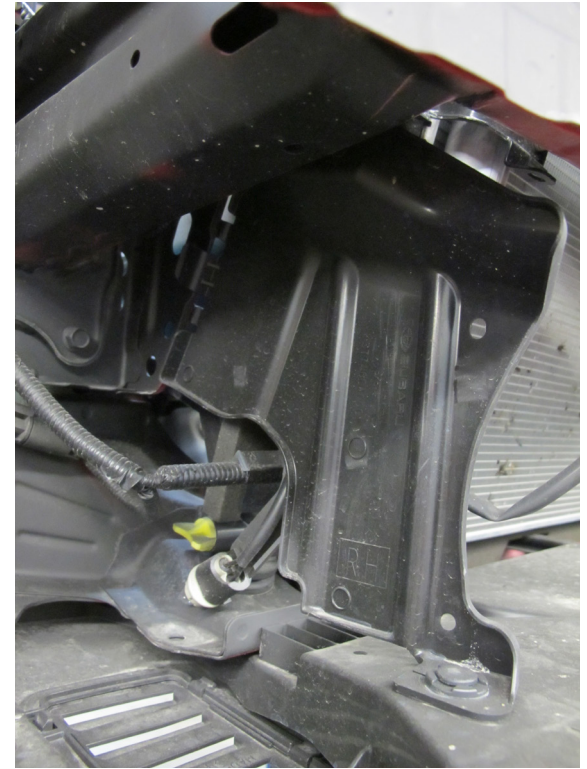

Fig. 4C
- E. Temporarily remove the two plastic side panels from either side of the cooling air feed cavity. These panels need to be modified to accommodate the CAC ducts. Find the two (left and right-side) 1:1 paper templates in the back of this manual. Use the templates to mark the modifications and then, using heavy-duty shears, modify the panels per the markups. Set aside. See Figs. 4C, 4D.